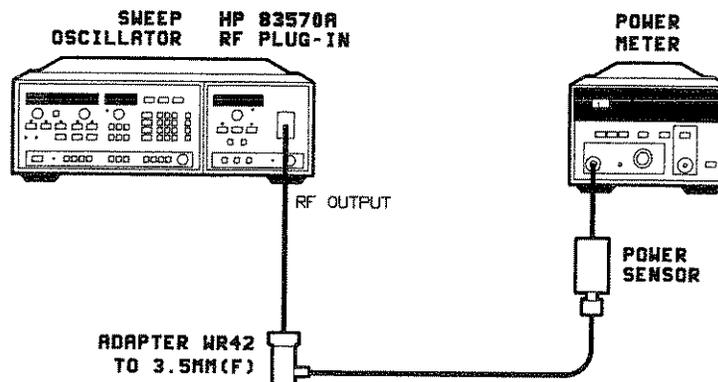

Figure 4-2. Output Amplitude Test Setup
1. Connect the equipment as shown in Figure 4-2. Do not connect the power meter/sensor to the HP 83570A power output. Allow at least one hour of warm-up.